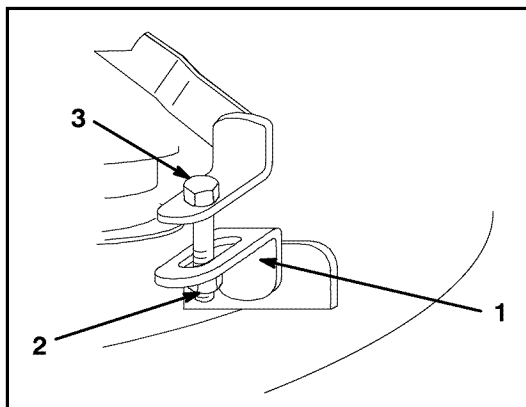

Figure 55 260_38_4.TIF
1. The adjustment link is on the right front corner of the mower. Loosen the jam nut on the link (Figure 55).